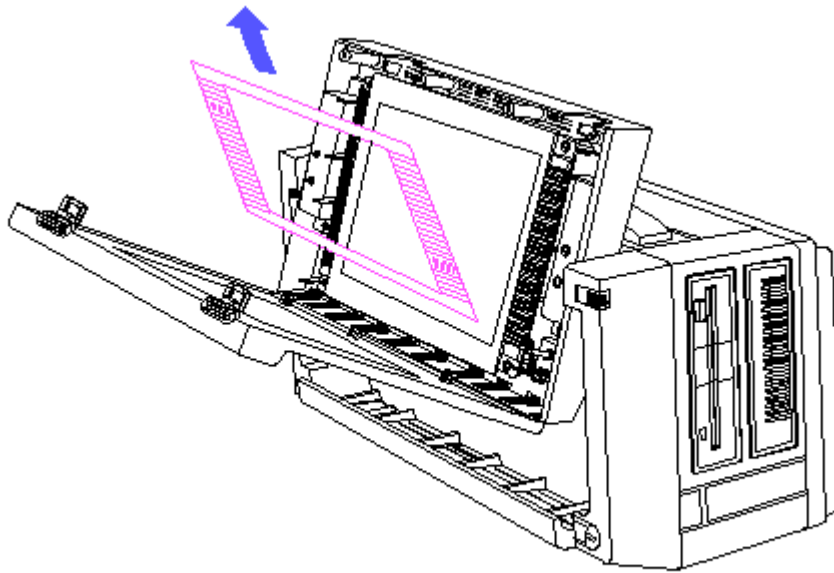

Figure 8-77. Removing the Plasma Display Filter
3. Remove the filter by lifting it up and out of the plasma display enclosure as shown in Figure 8-77.